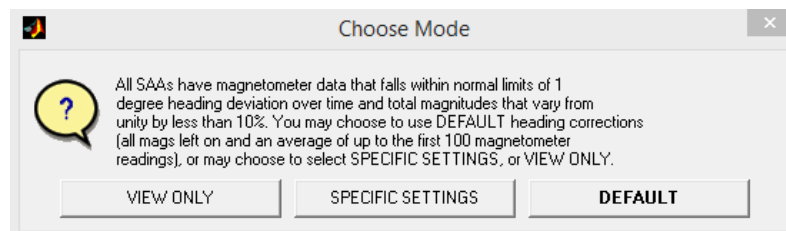

Figure 5.28: The 'Choose Mode' window that appears.
9. A message similar to **Figure 5.28** will appear.